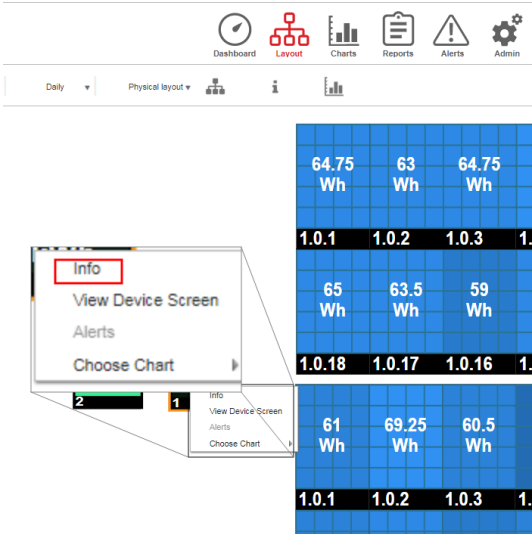
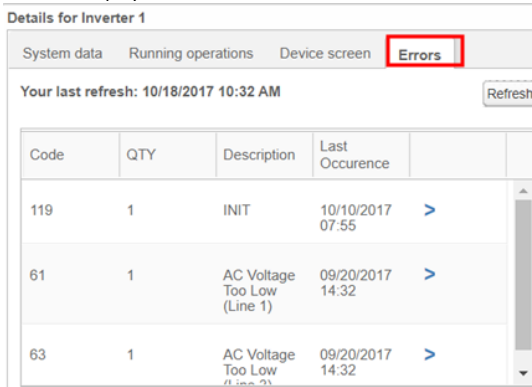

Figure 46: Inverter menu
Figure 47: Inverter details - Error list
2. Right-click the inverter and select **Info** from the menu (Figure 46). The inverter details window is displayed (Figure 47).